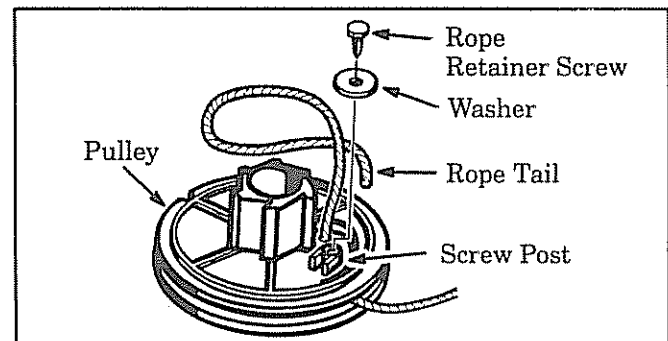

Figure 19
8. Remove rope retainer screw. Figure 19 . Remove any remaining rope.
16. Wrap rope counterclockwise around the pulley ratchet and tuck the loose end under the rope at the pulley hole. Figure 19 . Leave a 1 inch tail laying flat on top of the pulley between the retainer rib and the retainer screw/post. Figures 19 & 20 .